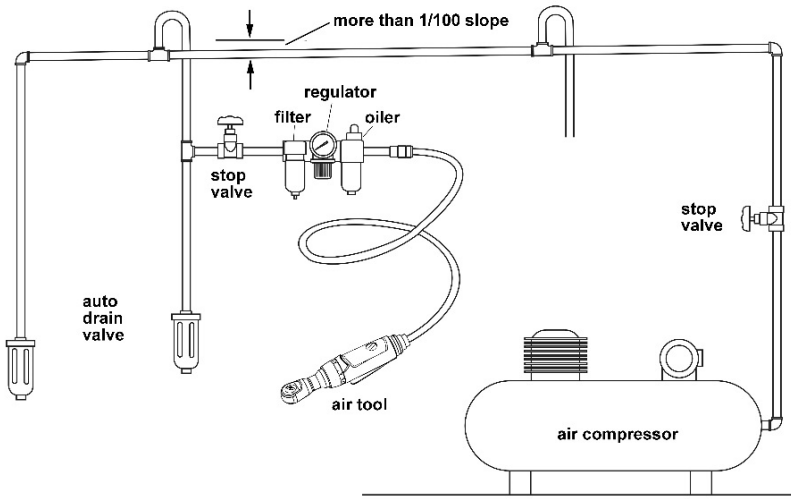

Figure 2
4. Remove protective cap from air inlet (Figure 2). If an in-line oiler is not being used, add 4 or 5 drops of air tool oil (not included) into the air inlet.
Always use moisture traps at the compressor for the main distribution line. Use moisture traps and in-line oilers on each downline that is to be used for air tools. (See Figure 2). Place oiler as close to air tool as possible for best lubrication.